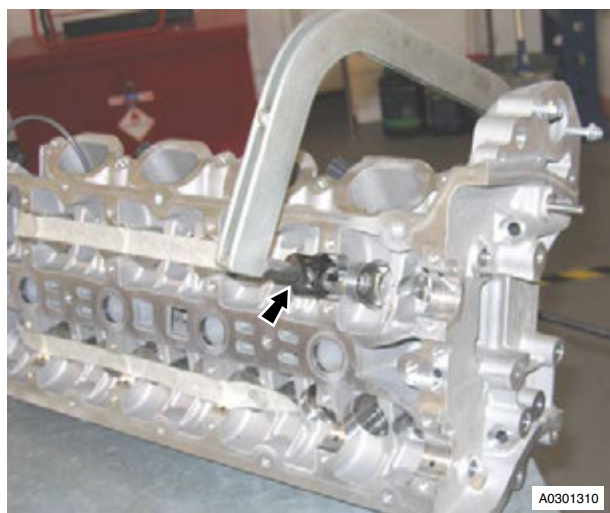

Figure 1
4. Position valve spring compressor, compress valve springs (see Figure 1).